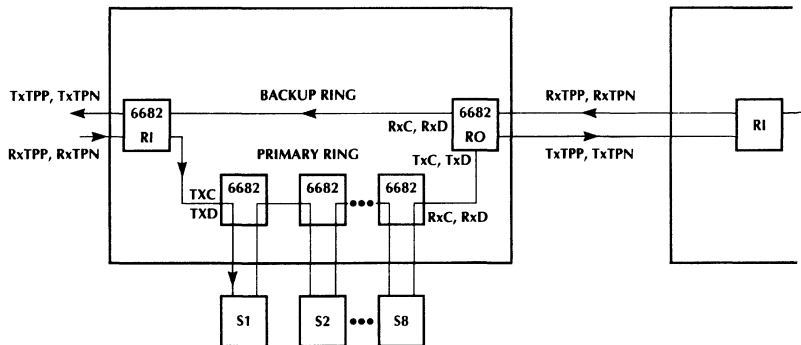

Figure 7. Intelligent UTP Hub.
- Note 5:** A. Difference between the delay from the nearest TxCLK rising edge to the TxTPPN differential BR edge and the delay from the nearest TxCLK rising edge to the TxTPPN differential BR/2 edge. Measured for either rising output edges or falling output edges only, with measurements made for each. Measurements are to be made at the output of both test circuits shown in Figure 3. (See waveforms in Figure 7 –4 of draft IEEE 802.5q/D4).
B. Difference between the delay from the nearest TxCLK rising edge to the TxTPPN differential edge and the delay from the nearest TxCLK rising edge to the TxTPPN differential edge. Measured for either rising output edges or falling output edges only, with measurements made for each using random data (JKs, 0s, 1s). Measurements are to be made at the output of both test circuits shown in Figure 3. (See waveforms in Figure 7 –4 of draft IEEE 802.5q/D4).
Figure 7 shows a block diagram of an intelligent UTP Hub implementation with active retiming on each port. The architecture shown has a back up ring for fault tolerant operation. The Ring In and Ring Out ports use phantom current to detect wire faults. When a fault is detected, the Ring-In and Ring-Out port go into the bypass state and perform an automatic loopback onto the Back-up Ring. This feature is especially useful in stackable hub designs.